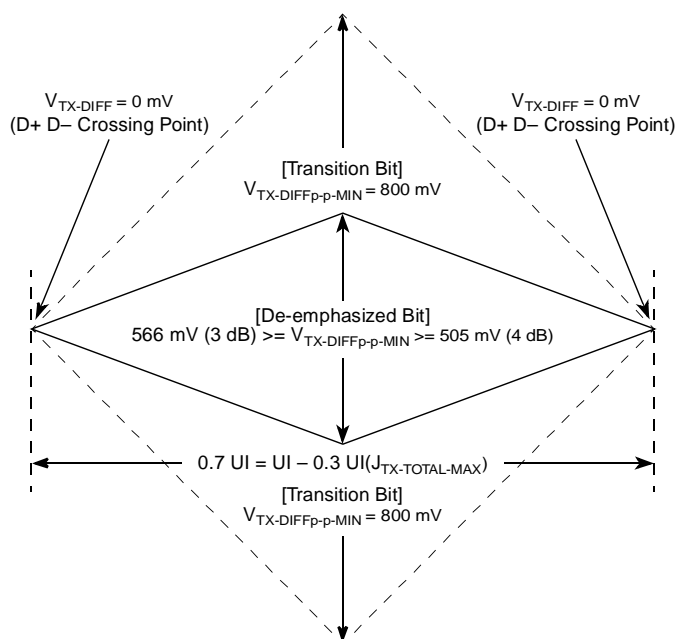
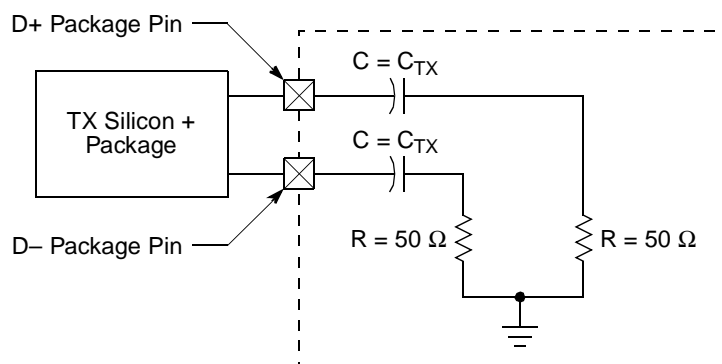

Figure 46. Minimum Transmitter Timing and Voltage Output Compliance Specifications
Figure 48. Compliance Test/Measurement Load
- 2 Specified at the measurement point into a timing and voltage compliance test load as shown in Figure 48 and measured over any 250 consecutive Tx UIs. (Also refer to the transmitter compliance eye diagram shown in Figure 46.)
- 4 The transmitter input impedance will result in a differential return loss greater than or equal to 12 dB and a common mode return loss greater than or equal to 6 dB over a frequency range of 50 MHz to 1.25 GHz. This input impedance requirement applies to all valid input levels. The reference impedance for return loss measurements is 50  $\Omega$  to ground for both the D+ and D– line (that is, as measured by a vector network analyzer with 50- $\Omega$  probes, see Figure 48). Note that the series capacitors,  $C_{TX}$ , is optional for the return loss measurement.
- 5 Measured between 20%–80% at transmitter package pins into a test load as shown in Figure 48 for both  $V_{TX-D+}$  and  $V_{TX-D-}$ .
The Tx eye diagram in Figure 46 is specified using the passive compliance/test measurement load (see Figure 48) in place of any real PCI Express interconnect + Rx component. There are two eye diagrams that must be met for the transmitter. Both diagrams must be aligned in time using the jitter median to locate the center of the eye diagram. The different eye diagrams differ in voltage depending on whether it is a
- 2 Specified at the measurement point and measured over any 250 consecutive UIs. The test load in Figure 48 should be used as the Rx device when taking measurements (also refer to the receiver compliance eye diagram shown in Figure 47). If the clocks to the Rx and Tx are not derived from the same reference clock, the Tx UI recovered from 3500 consecutive UI must be used as a reference for the eye diagram.
- 4 The receiver input impedance will result in a differential return loss greater than or equal to 10 dB with the D+ line biased to 300 mV and the D– line biased to –300 mV and a common mode return loss greater than or equal to 6 dB (no bias required) over a frequency range of 50 MHz to 1.25 GHz. This input impedance requirement applies to all valid input levels. The reference impedance for return loss measurements for is 50  $\Omega$  to ground for both the D+ and D– line (that is, as measured by a vector network analyzer with 50- $\Omega$  probes, see Figure 48). Note that the series capacitors,  $C_{TX}$ , is optional for the return loss measurement.
The Rx eye diagram in Figure 47 is specified using the passive compliance/test measurement load (see Figure 48) in place of any real PCI Express Rx component. In general, the minimum receiver eye diagram measured with the compliance/test measurement load (see Figure 48) is larger than the minimum receiver eye diagram measured over a range of systems at the input receiver of any real PCI Express component. The degraded eye diagram at the input receiver is due to traces internal to the package as well as silicon
The reference impedance for return loss measurements is 50 Ω to ground for both the D+ and D– line (that is, as measured by a Vector Network Analyzer with 50 Ω probes—see Figure 48). Note that the series capacitors, CPEACCTX, are optional for the return loss measurement.
The AC timing and voltage parameters must be verified at the measurement point, as specified within 0.2 inches of the package pins, into a test/measurement load shown in Figure 48.